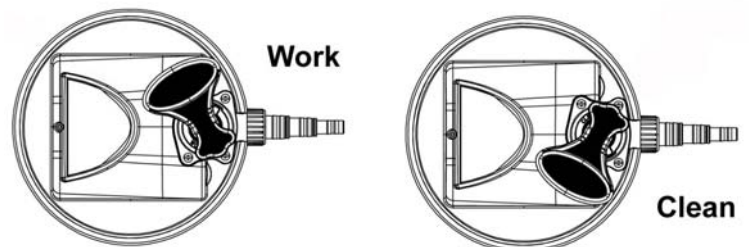

Fig. 2
13. To operate the pressurized filter, the handle should be in the "WORK" position (Fig.2).
14. To clean the pressure bucket, press and turn the handle to the "CLEAN" position (Fig. 2).